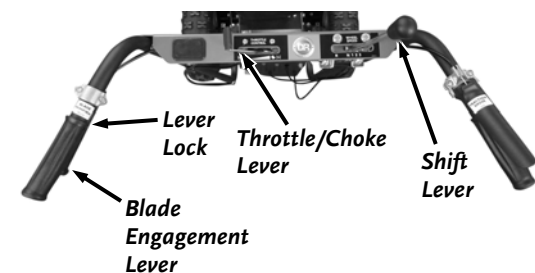

Figure 16
1. Engage the Blade by pressing the Lever Lock (see **Figure 6 on page 10**), then squeezing the Blade Engagement Lever to the Handle (**Figure 16**).
1. Release the Blade Engagement Lever (**Figure 16**).
1. Stop the Blade by releasing the Blade Engagement Lever (**Figure 16**).